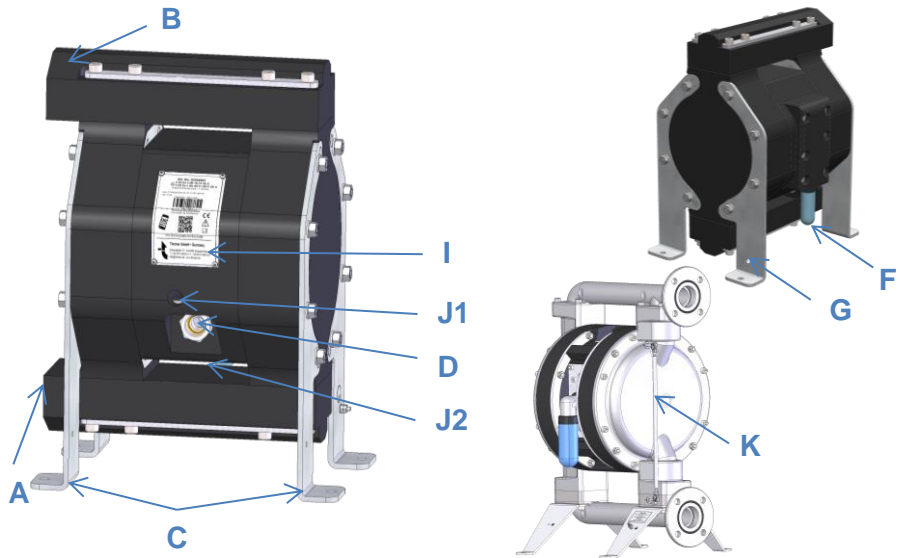

Fig. 4 Pump
7. Install the suction and supply lines to the appropriate connectors or directly to the pump. Install the suction and supply lines to the appropriate connectors or directly to the pump. Please note the pin assignments shown in Fig. 4 and the information given in Chapter 10.2.2 Laying the connection line.